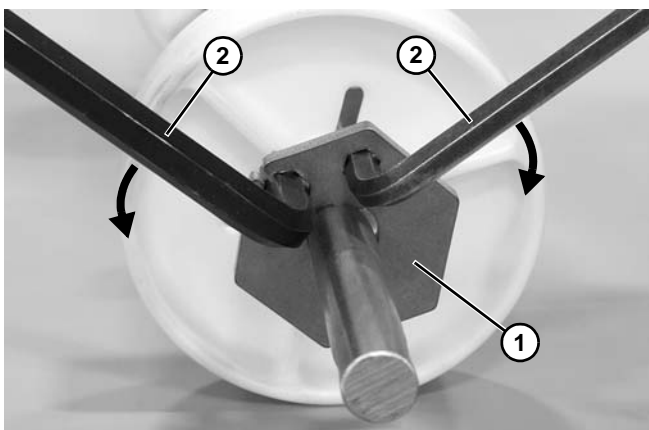

Figure 89
- c. To lock the retainer plate (**Figure 89, item 1**) in place, move the wrenches (**Figure 89, item 2**) away from each other.